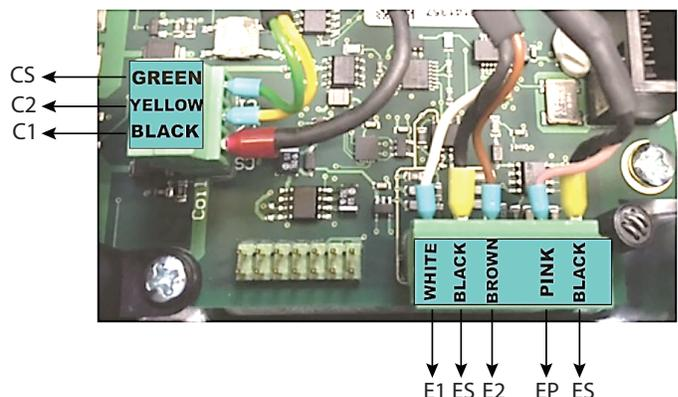

Figure 7: M2000 connector to amplifier housing/bracket assembly
7. Connect the wires inside the amplifier box according to Figure 7. Check that all connections are secure.